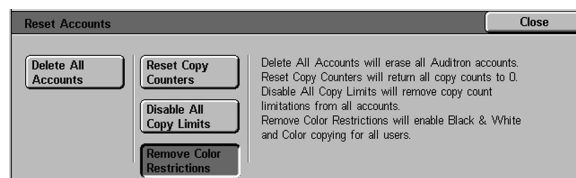

Figure 36: Remove Color Restrictions button
- 5 Touch the **Remove Color Restrictions** button if you want to remove any color restrictions that were assigned to any of the Auditron user accounts. By removing the color restrictions, all Auditron users will be able to make both color and black and white copies, Figure 36.